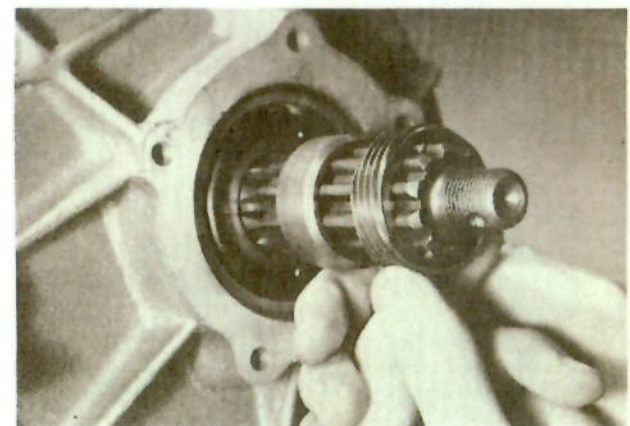

FIG. 14 - REMOVING THE SPEEDOMETER DRIVE GEAR AND THE SPACER FROM THE TRANSFER DRIVE SHAFT
24. Remove the packing and the driveshaft adjust shims from the case. Remove the speedometer drive gear and the spacer from the driveshaft, (Fig. 14).
43. Install the speedometer spacer and the speedometer drive gear on the overdrive output shaft. (Refer to Disassembly Fig. 14) Then, place a special packing (P/N 4126) and the speedometer gear housing in place against the overdrive rear housing.